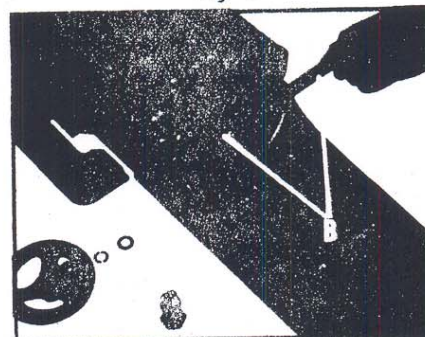

Fig. 4
5. Unscrew and remove shaft (B), as shown in Fig. 4.